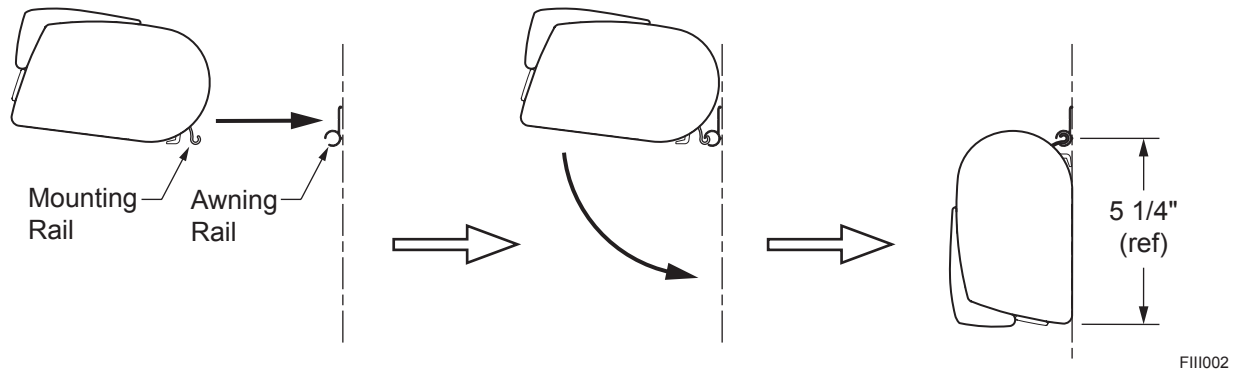

Figure 4. Mount Using Awning Rail.
12. (Refer to figure 4) Drill three (3) 3/16" holes through the back of the case into the mounting surface and into the structure. Use care to not drill through the inner wall.